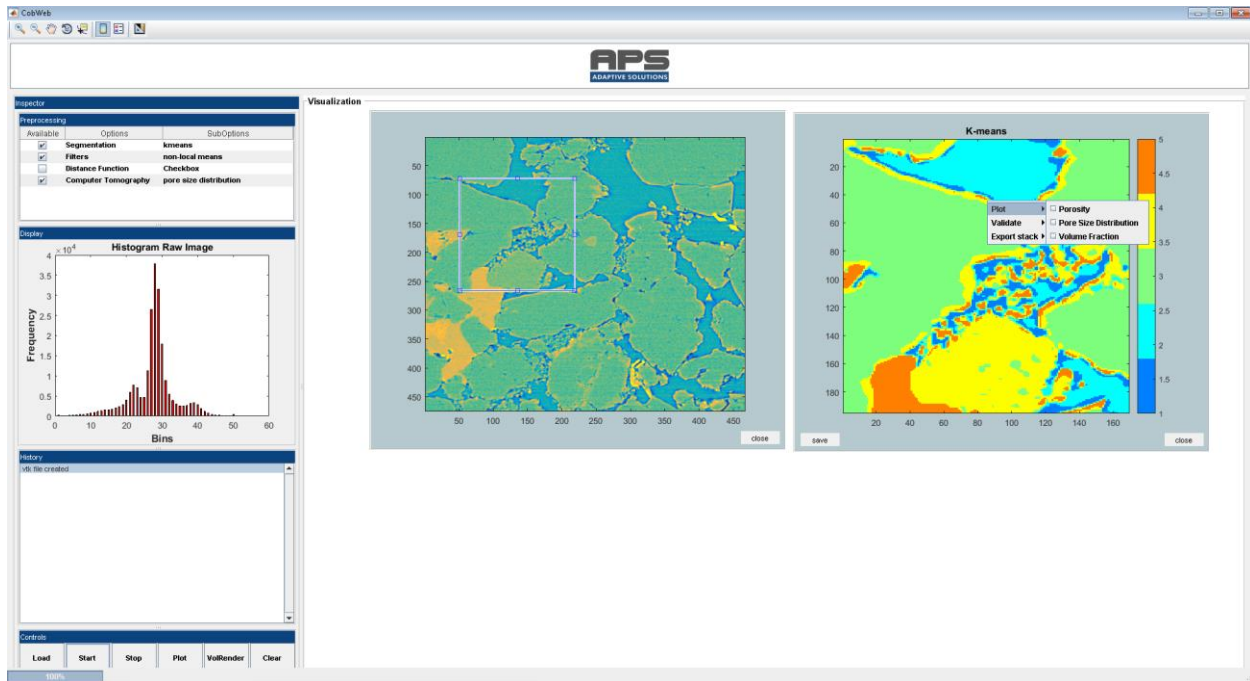

Figure 26: K-means segmentation
- Figure 26 shows how, by clicking the **Plot** button (left click), the segmented slice is **displayed** in a **separate pan window**.